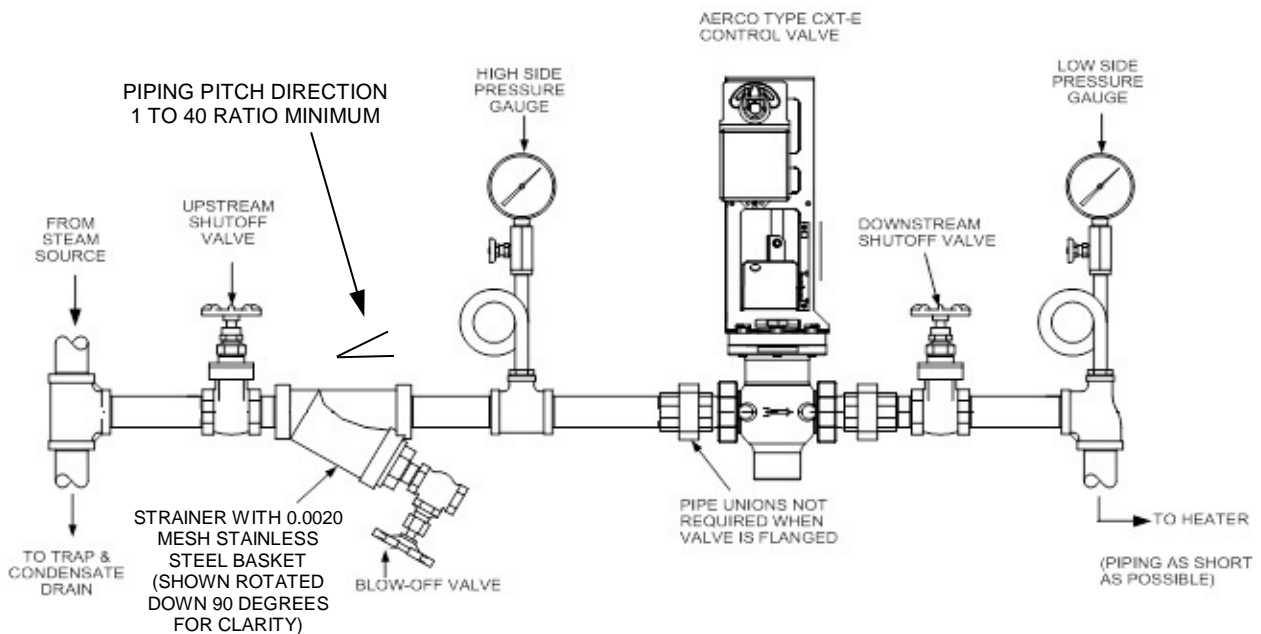
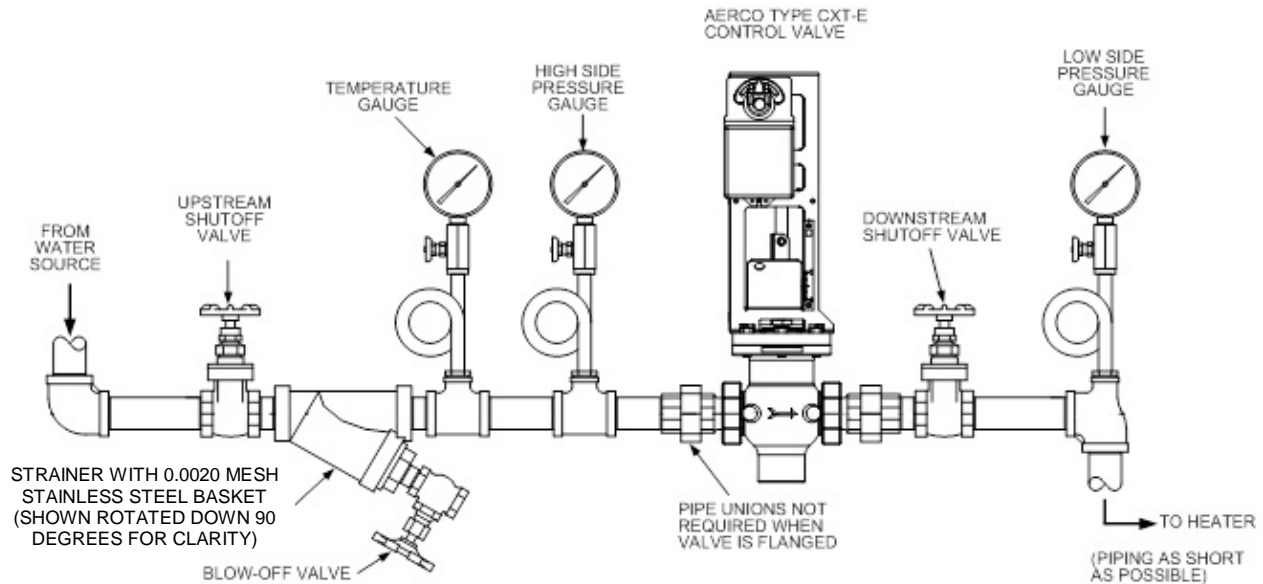

Figure 2-1. Recommended Control Valve, CXT-E Installation For Steam Flow
Figure 2-2. Recommended Control Valve, CXT-E Installation For Hot (Boiler) Water Flow
- 2) Next, refer to the recommended installation drawing in Figure 2-1 for steam flow, or Figure 2-2 for hot (boiler) water flow.
- 3) Install the Control Valve with the Actuator Linkage in the vertical, upright position as shown in Figure 2-1 or 2-2.
- 6) Install an in-line strainer upstream of the Valve, as shown in Figure 2-1 (steam) or Figure 2-2 (hot boiler water). This will protect against foreign matter reaching the Valve during service operation.
- 9) Pressure gauges should be installed on both sides of the Control Valve as shown in Figure 2-1 (steam) or Figure 2-2 (hot water).
- 11) A temperature gauge should be installed in the high pressure side of a hot (boiler) water line as shown in Figure 2-2.